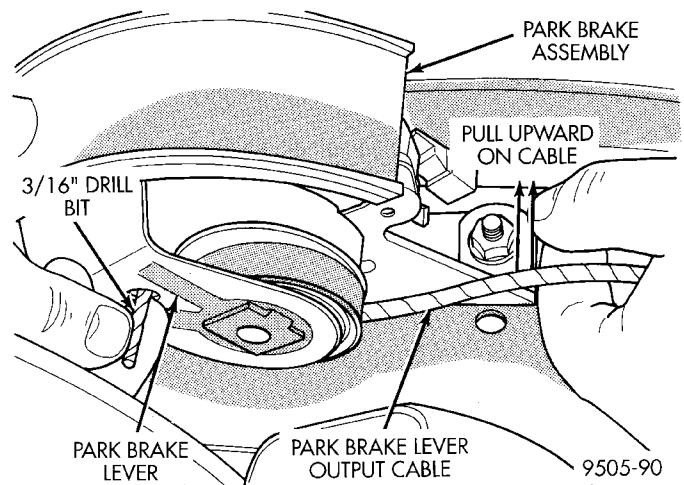

Fig. 9 Removing Park Brake Cables From Equalizer
(9) Remove both rear park brake cables from the park brake cable equalizer (Fig. 9).